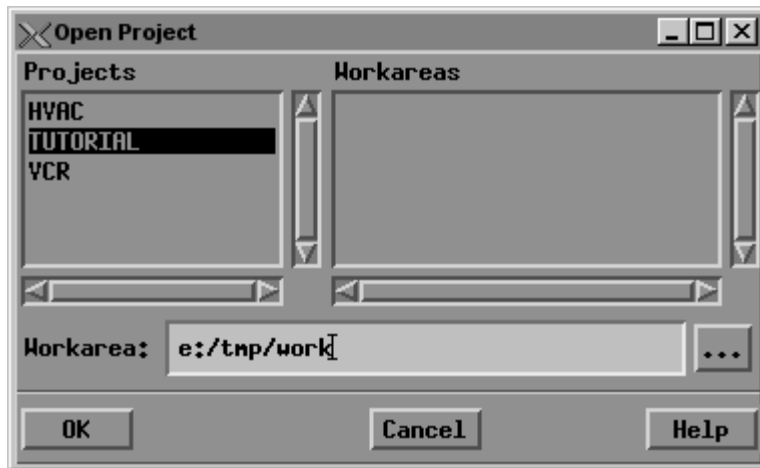

FIGURE 4-2 StateMate Open Project Dialog
4. An **Open Project** dialog will open with our newly created TUTORIAL project selected. Notice that there is currently no work area (in the right pane) for this project (see Figure 4-2).